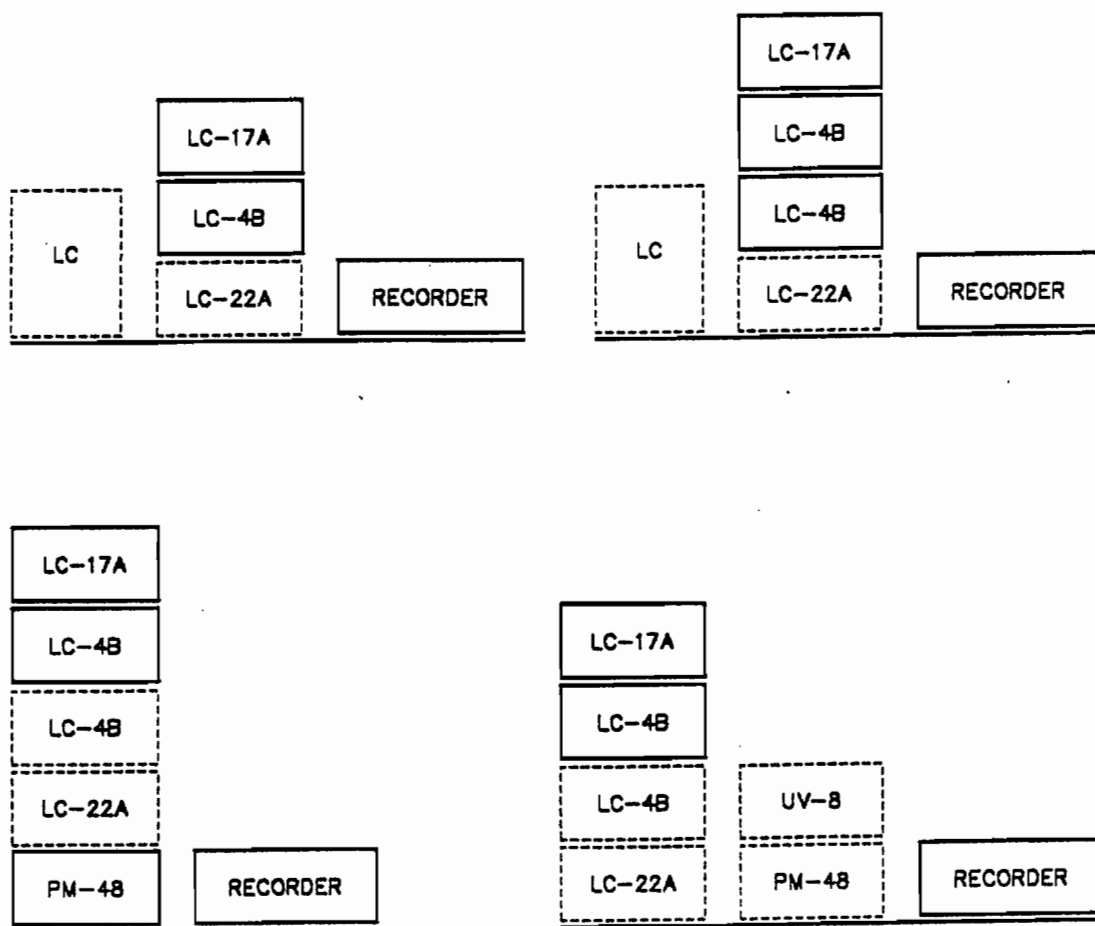

Figure 3-7. Schematic for stand-alone electrochemical detectors and BAS 400 components
1. Arrange the various components per Figure 3-7. The LC-4B controller(s) must always be placed immediately under the LC-17A(T) compartment. This arrangement is necessary for the correct placement of the cable shield. The LC-17A(T) has been sealed along all joints. If an accidental leak should occur, the compartment could hold over 500 mL of liquid before overflowing to components below.